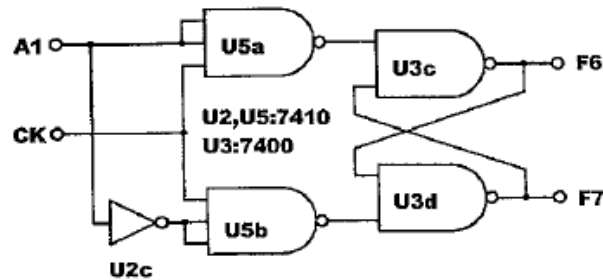
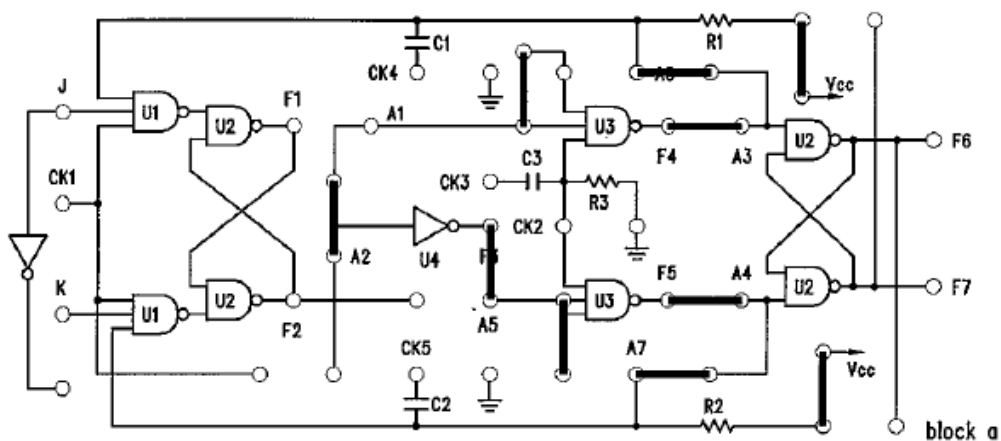

Figure 1.5
Figure 1.6
6. Construct D flip-flop with R-S flip-flops by following the scheme of **Figure 1.5**. Use jumpers to construct the circuit of **Figure 1.6**.